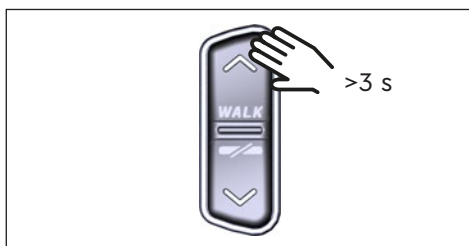

Fig. 9: Activate walk assist
- ▶ When the e-bike is at standstill, press the UP button on the remote for longer than 3 s (see Fig. 9) to activate the walk assist.